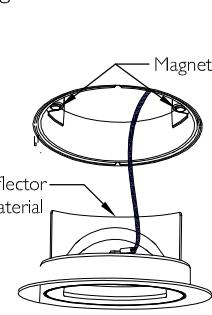

Fig.10
- 2d. Wall Wash: Align reflector material to fit between magnets as shown in Fig. 10. Guide Trim into Finishing Section (C3L085LW\_SERIES), ensuring there is no interference.